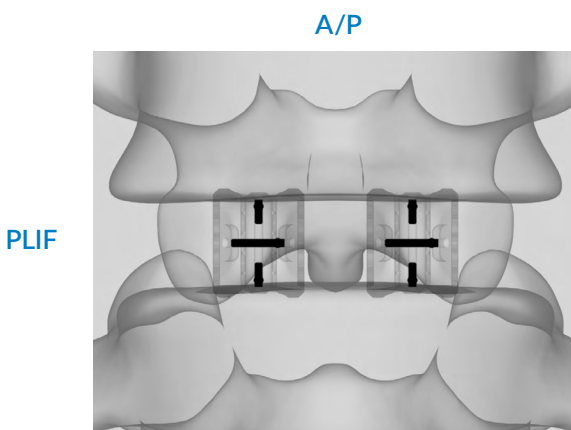

Figure 11A
Bilateral Approach: An A/P view should show a “cross-hair” (per implant): two (2) vertical pins at the superior and inferior implant surfaces with one (1) horizontal pin centered between them (Figure 11A).